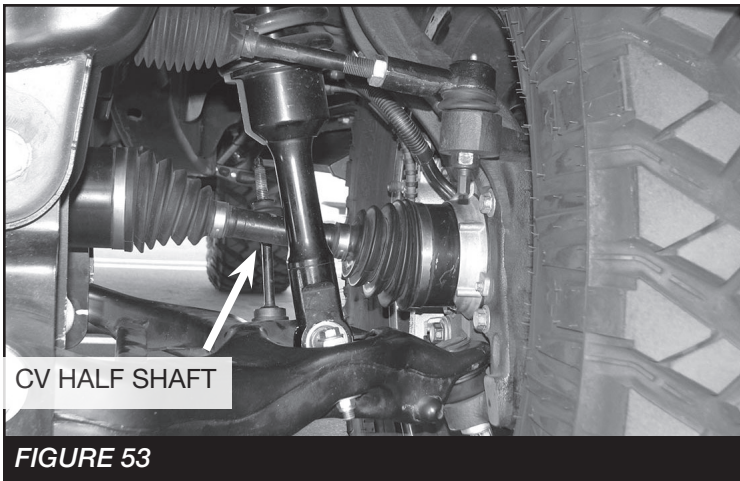

FIGURE 53
3. With the vehicle in PARK, start the engine. **NOTE: MAKE SURE THE VEHICLE IS PLACED IN 2WD.** Rotate the wheel/tire and check to see if the CV half shaft rotates. If the CV half shaft rotates, either a vacuum leak is present or the IWE (Integrated Wheel End) was installed improperly. **NOTE: DO NOT OPERATE THE VEHICLE OR DAMAGE WILL OCCUR. SEE FIGURE 53**